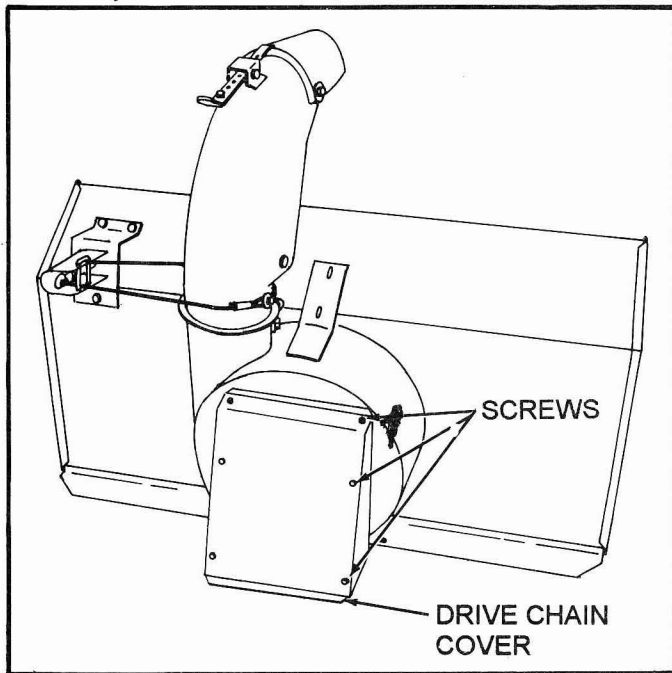

FIG. 11
- Remove six cap screws from drive chain cover and set aside screws and cover for reinstalling later. (See Fig 11)